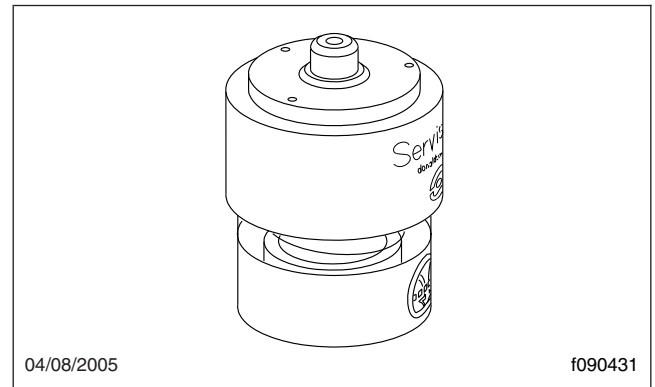

Fig. 2, Manual-Reset Air Restriction Indicator, Go/No-Go
1. Inspect the belt for glazing. See Fig. 2, Ref. A. Glazing is represented by shiny sidewalls, and is caused by friction created when a loose belt slips in the pulleys. It can also be caused by oil or grease on the pulleys.
2. Check the belt for ply separation. See Fig. 2, Ref. B. Oil, grease, or belt dressing can cause the belt to fall apart in layers. Repair any oil or coolant leaks that are affecting the belts before replacing the drive belts. Do not use belt dressing on any belt.
3. Check the belt for a jagged or streaked sidewall. See Fig. 2, Ref. C. Jagged or streaked sidewalls are the result of foreign objects, such as sand or gravel in the pulley, or a rough pulley surface.
4. Check for tensile breaks (breaks in the cord body). See Fig. 2, Ref. D. Cuts in a belt are usually caused by foreign objects in the pulley, or by prying or forcing the belt during removal or installation.
Vehicles may be equipped with either a manual-reset restriction indicator with graduations (**Fig. 1**), or a go/no-go restriction indicator without graduations (**Fig. 2**).